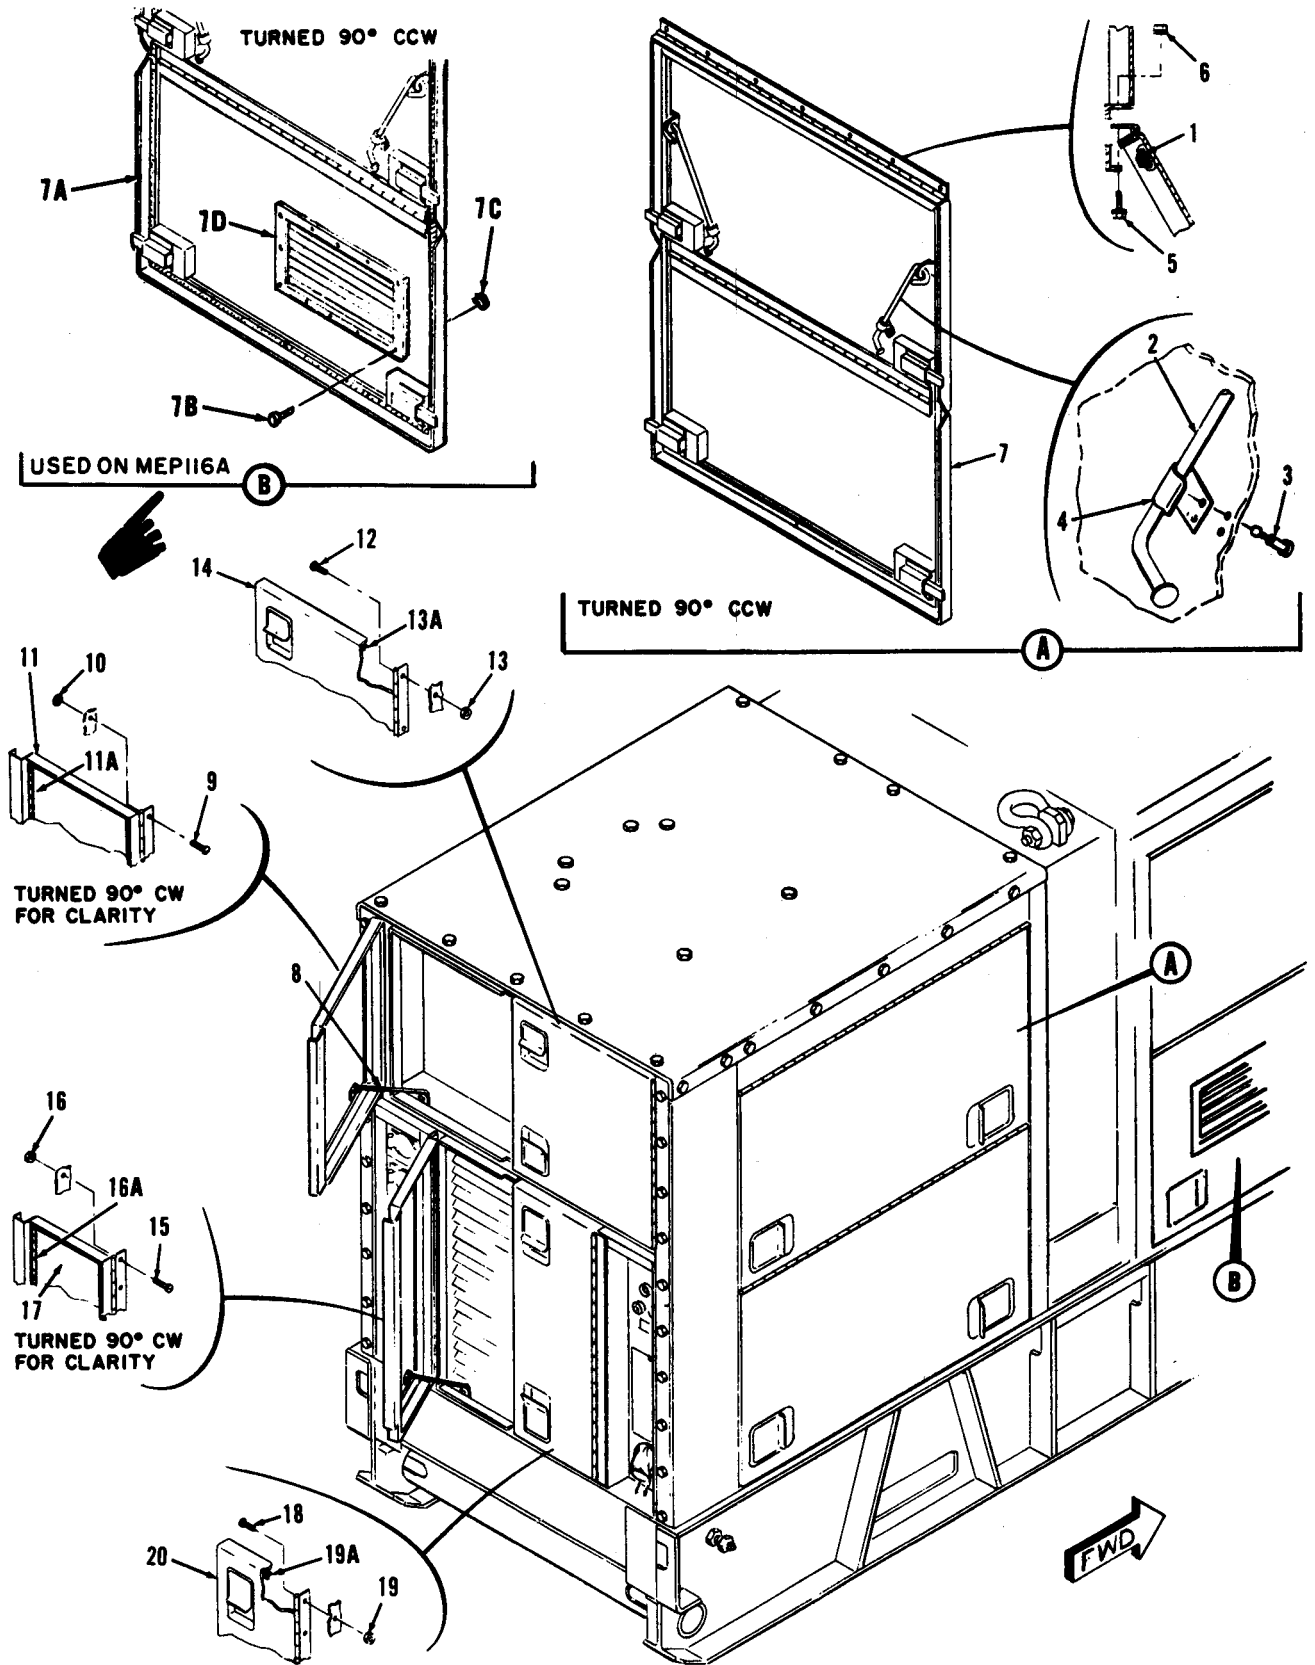

Figure 3-14. Housing, partially exploded view
a. REMOVAL. Remove housing doors, covers, seals, and associated hardware in sequence illustrated in figure 3-14, observing the following:
c. INSTALLATION. Install housing doors, covers, seals, and associated hardware in reverse sequence illustrated in figure 3-14, observing the following:
Legend to figure 3-14: